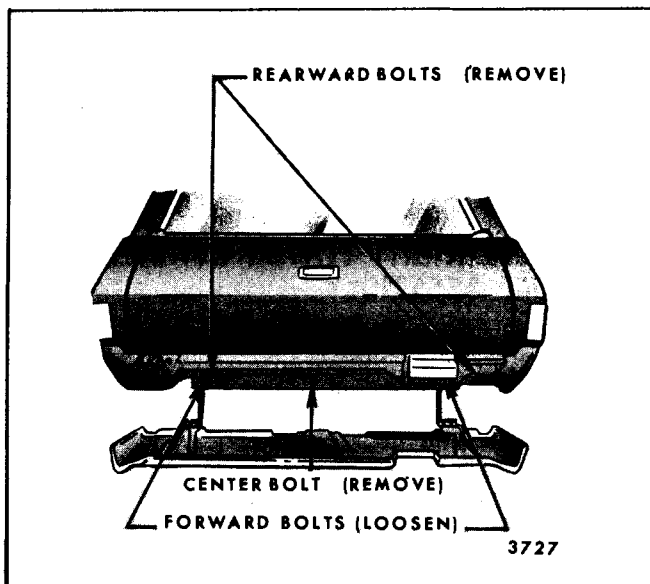

Fig. 9-54-Bumper Removal (Typical)
- A. Remove the two rearward bumper to frame attaching bolts and loosen the forward two bolts (Figure 9-54).
- B. Remove the center bumper to frame bolt and lower bumper (Figure 9-54).